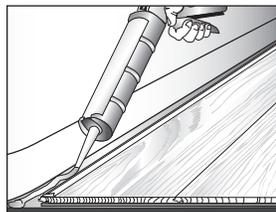

Figure 20
- All perimeter expansion zones must be completely filled with 100% silicone caulk following the manufacturer's recommendations. When applying caulk, it is helpful to first apply a strip of painter's tape (3M Scotch-Blue™ 2080 Tape) parallel to and approximately 1/32" (.79 mm) from the edge of the hardwood (Fig. 20). Then fill the expansion zone with caulk, remove the excess with a plastic scraper or putty knife and remove the tape.